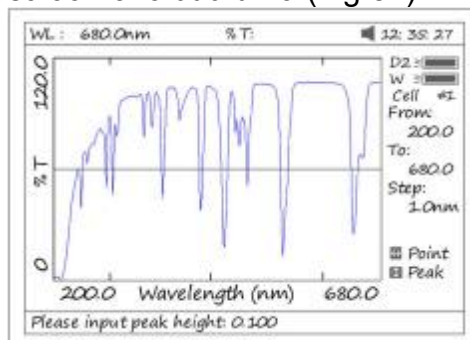
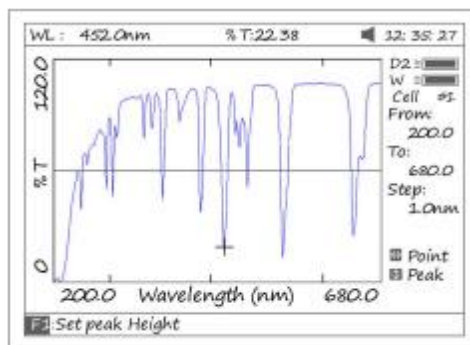

Fig 50
Fig 51
- 1) **Peak to peak**, press **【F1】** to set “peak height” and input value by pressing the numeric keypad (Fig 50). Press **【^】** to search the peak from left to right and press **【V】** to search from right to left. The value of every peak found will be displayed on the screen one at a time (Fig 51).